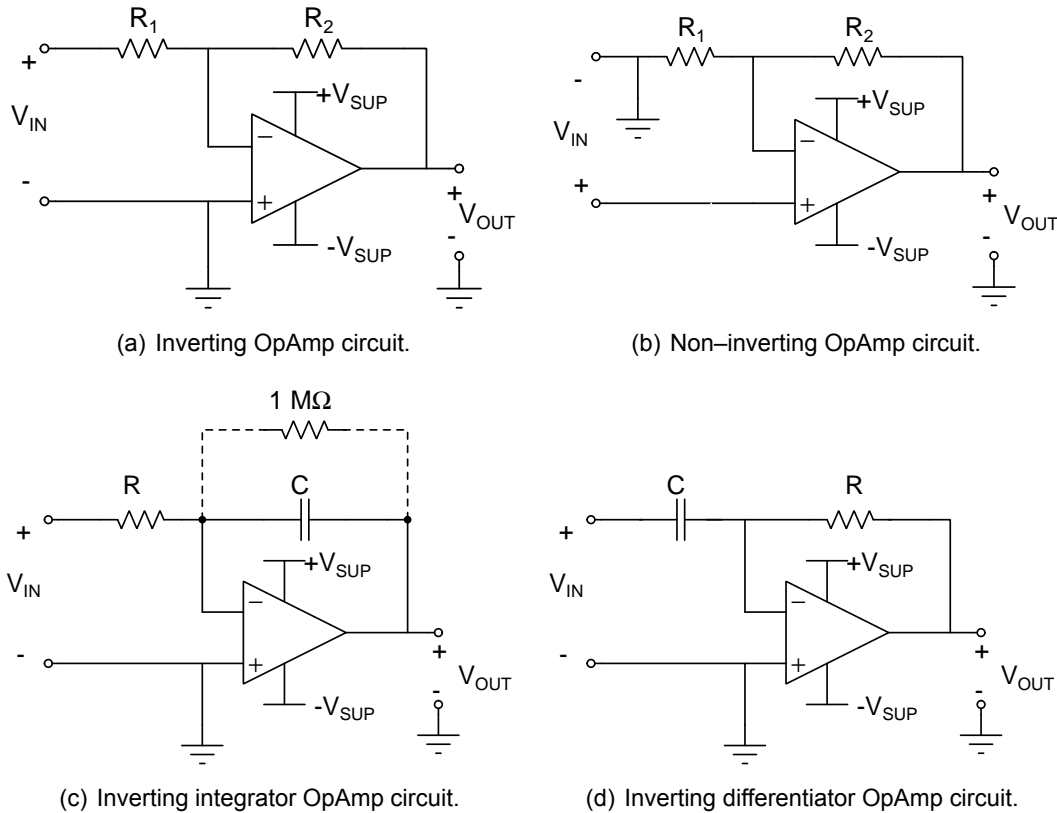
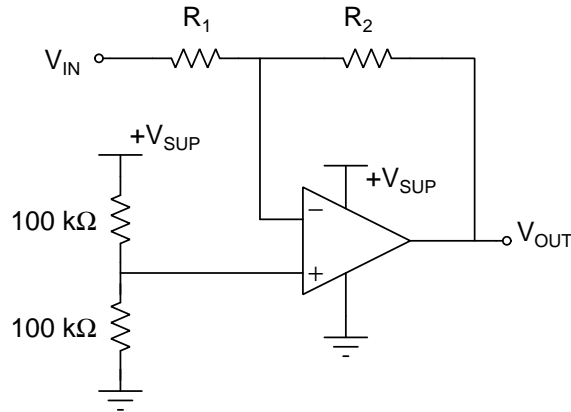

Figure 1: Four basic OpAmp circuits using negative feedback.
Figure 2: Inverting OpAmp circuit operated from a single power supply.
1. Review the ideal OpAmp circuits from ECE 210 and make sure you are able to calculate the transfer function, $V_{OUT}(t)$ as a function of $V_{IN}(t)$, for each of the four OpAmp configurations shown in **Figure 1**. These OpAmps use dual-rail voltages ($\pm V_{SUP}$), and negative feedback to achieve amplification within the active region of operation.
2. Design an inverting OpAmp circuit, shown in **Figure 1(a)**, to produce a gain of -8 V/V.
3. Simulate the inverting OpAmp circuit designed in Pre-Lab **item 2**.
4. Design a non-inverting OpAmp circuit, shown in **Figure 1(b)**, to produce a gain of +10 V/V.
5. Verify the design by simulating the non-inverting OpAmp circuit designed in Pre-Lab **item 4**. Set the input signal to a sine wave, with an amplitude of 0.5 V_p, and a frequency of 2 kHz. Plot V_{OUT} and V_{IN} as a function of time. What are the gain and phase shift of the output with respect to the input? How do the results from the LM741 OpAmp compare with an ideal OpAmp?
6. Design an inverting integrator OpAmp circuit, shown in **Figure 1(c)**, to produce a gain of -5 V/V when the input is a sine waveform with a frequency of 2 kHz.
7. Verify the design by simulating the inverting integrator OpAmp circuit designed in Pre-Lab **item 6**. Set the input signal to a sine wave, with an amplitude of 0.5 V_p, and a frequency of 2 kHz. Plot V_{OUT} and V_{IN} as a function of time. What are the gain and phase shift of the
8. OpAmp circuits can be modified to operate from a single rail voltage. This is illustrated in **Figure 2** for the inverting amplifier configuration. In this circuit, $-V_{SUP} = 0$ V, and the non-inverting input (v_n) is biased at $+V_{SUP}/2$. This circuit will be utilized in Lab 5. Draw the schematic of the non-inverting OpAmp configuration shown in **Figure 1(b)** when operated from a single rail voltage.
2. Build the non-inverting OpAmp circuit designed in Pre-Lab **item 4**.
3. Build the inverting integrator circuit designed in Pre-Lab **item 6**.
4. Build the inverting differentiator shown in **Figure 1(d)** with $R = 1\text{ k}\Omega$ and $C = 0.1\text{ }\mu\text{F}$. What is the relationship between V_{OUT} and V_{IN} for this circuit?